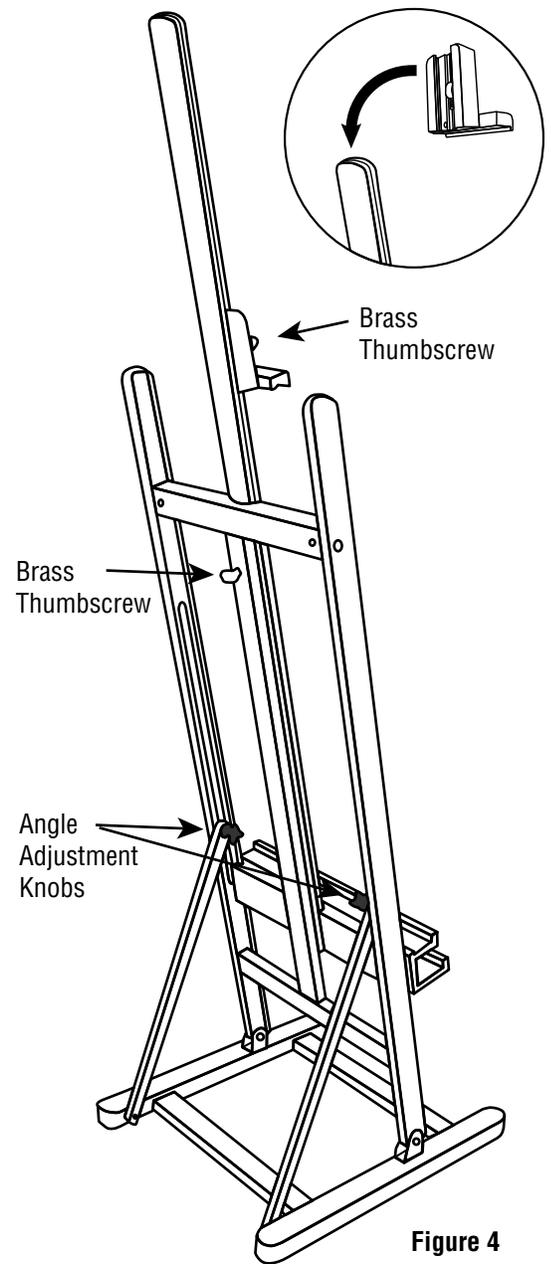

Figure 4
- 5** Loosen the two angle adjustment knobs and slowly lift frame into the vertical position, as shown in Figure 4. Tighten knobs when desired angle is reached.
- 6** Slide top bracket down over main vertical track and secure with brass thumbscrew at desired height, as shown in Figure 4.